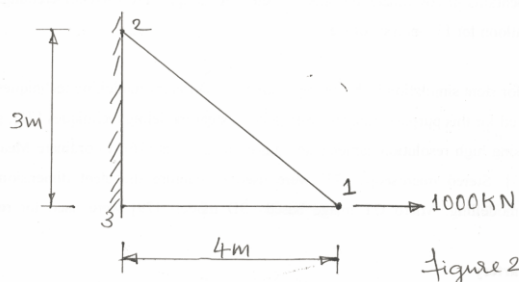
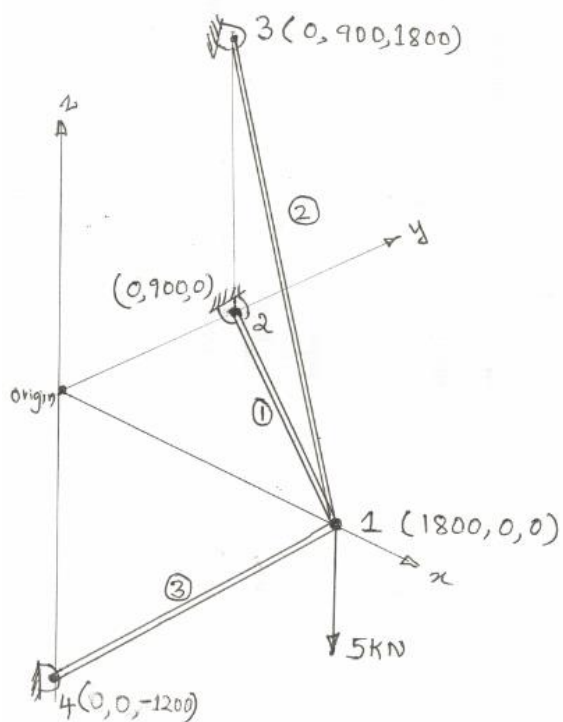
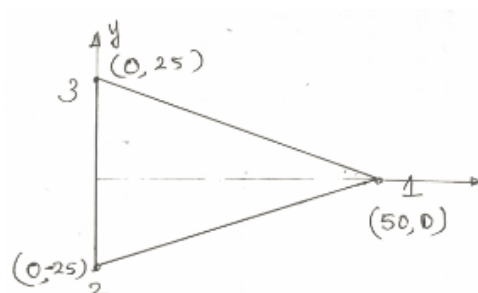

Figure 2
Figure 3
Figure 4
- 2A. For the two bar truss shown in Figure 2, find the displacement at the loading point. Given, $E=210GPa$, area of cross-section $A=6 \times 10^{-4}m^2$ for each element. (07)
- 2B. Derive the stiffness matrix of link element using principal of minimum potential energy. (03)
- 3A. For the 3 Dimensional truss show in Figure 3, Find the displacement of node1. Given, $E=9GPa$ for all members. Area of cross-sections, $A_1=200mm^2$, $A_2=500mm^2$, $A_3=60mm^2$. Node 1 is supported by a roller which prevents y-direction displacement(coordinate locations are in mm) (08)
- 3B. Briefly explain plane stress and plane strain assumption. (02)
- 4A. For the triangular element shown in Figure 4, find the displacement and stress at the node 1 for a load of 1000N, when node 2 and node 3 are fixed. Assume plane stress conditions. $E=200GPa$, Thickness=1mm, poison's ratio 0.3 (10)